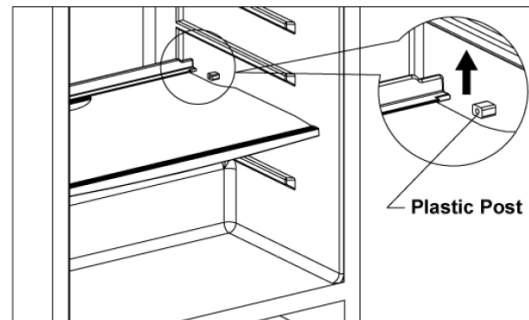

Figure 5
5. Pull the shelf forward until it is completely removed from the inner compartment. (figure 5)